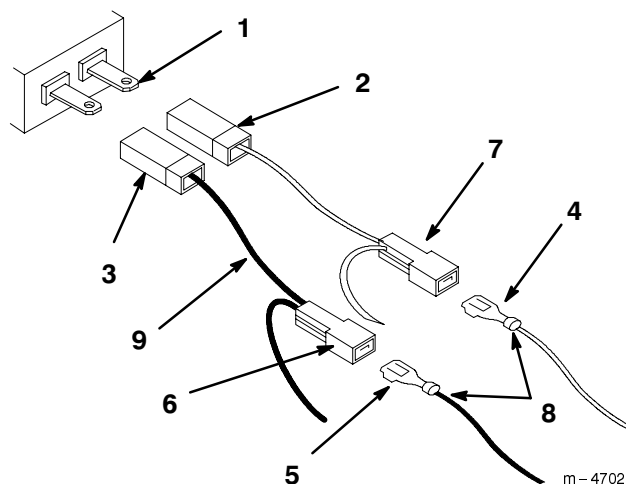

Figure 11
2. Route harness under control panel, in slot (Fig. 11).